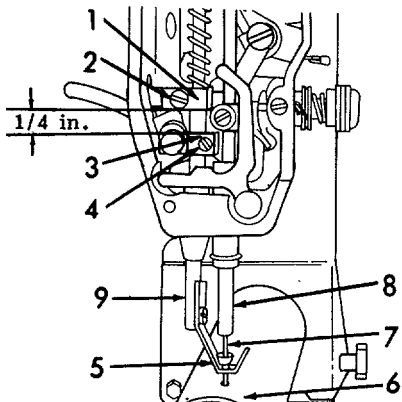

Figure 6-111. Presser Bar Assembly, Adjustment.
f. Adjustment (Refer to Figure 6-111).